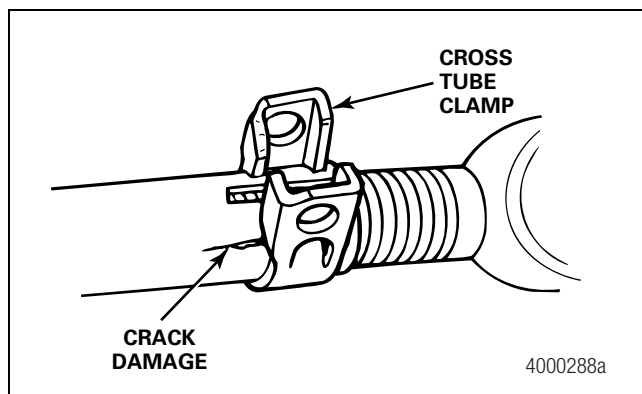

Figure 6.24
11. Inspect the cross tube and clamps for damage. Figure 6.24.